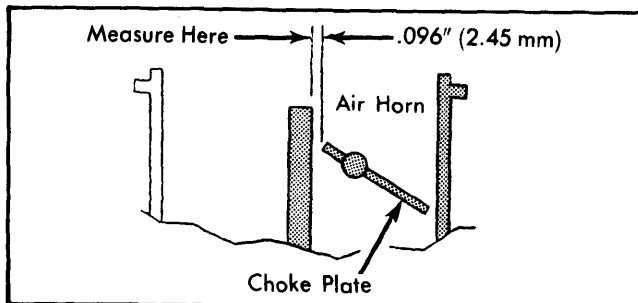

Fig. 5 Datsun Choke Unloader Adjustment
2) Measure clearance between choke plate and air horn wall. Clearance should be as specified in table. Bend unloader tang to adjust. See Fig. 5.